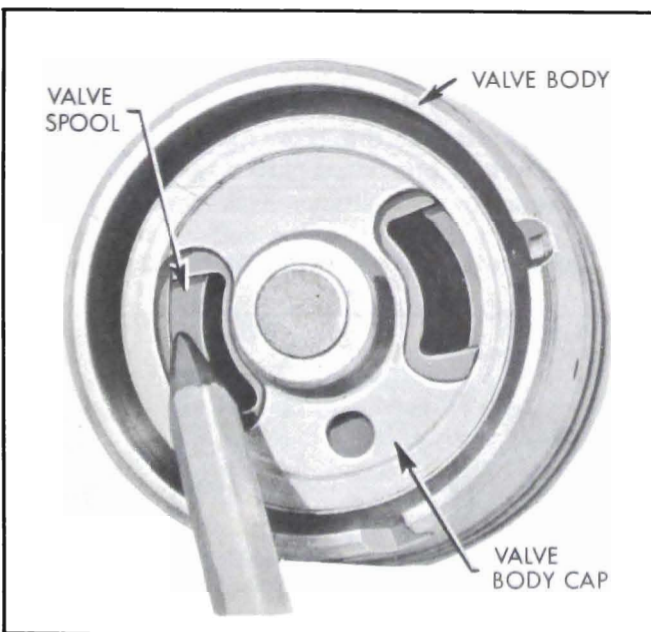
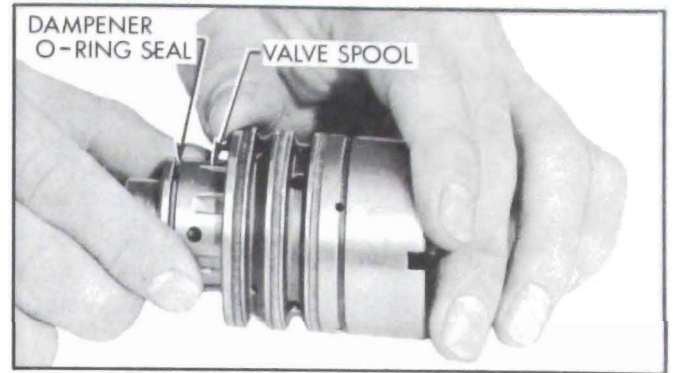

Figure 8-44—Separating Valve Spool From Valve Body
Figure 8-45—Withdrawing Valve Spool From Valve Body
3. Remove the valve spool by holding the valve assembly in one hand with the stub shaft pointing downward. Insert the end of a pencil or wood rod through the opening in the valve body cap and lightly push on the valve spool until it is far enough out of the valve body to be withdrawn. See Figure 8-44. Withdraw the spool with a steady rotating pull to prevent jamming. See Figure 8-45. If slight sticking occurs, make a gentle attempt to reverse the withdrawal procedure. If this does not free spool, it has become cocked in the valve body bore. Do not attempt to force the spool in or out if it becomes cocked, but continue with the following step.